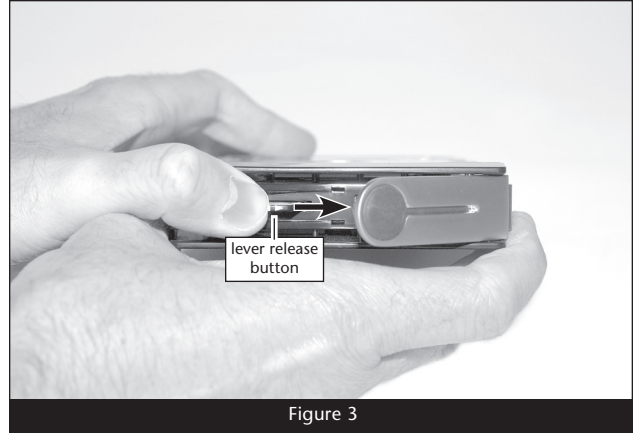

Figure 3
2. Take one of the drive modules and push its lever release button toward the right until the lever pops out. (Figure 3).